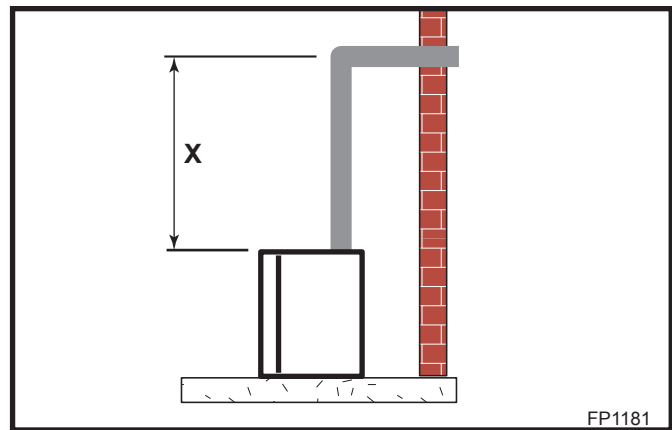

Fig. 17 Vertical height requirements.
Place fireplace into position. Measure the vertical height (X) required from the base of the flue collars to the center of the wall opening. (Fig. 17)